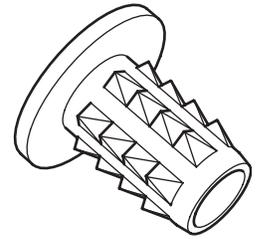
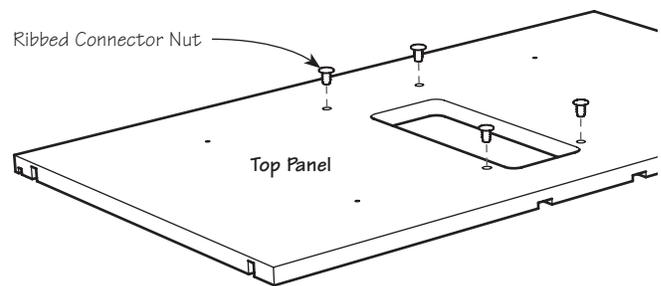

Figure 2: Ribbed connector nut.
Figure 3: Ribbed connector nuts in the top panel.
- The first step is to install the ribbed connector nuts (**Figure 2**) as shown and oriented in **Figures 3** through **6**. These nuts can be driven into the appropriate holes with a mallet or hammer. If a hammer is used, we recommend placing a scrap piece of wood over the top of the nut to avoid marring the parts with errant hammer blows.